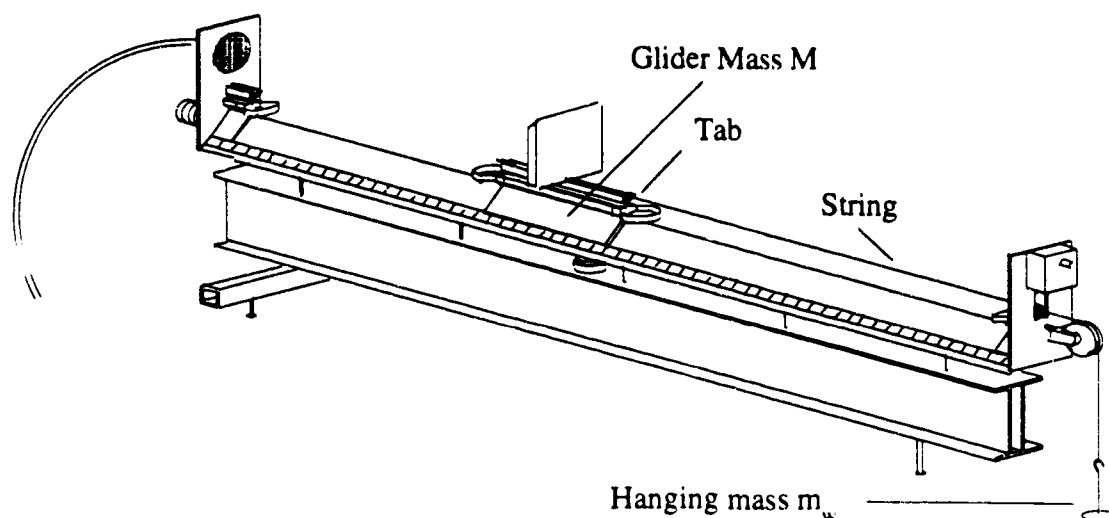

Figure 1: Set-up for Part II
- (b) The complete plot of this data was previously seen in this activity as Figure 1.
1. Attach the hook on the thread to the metal tab on the glider, pass the thread through the hole in the transducer mounting plate, and then over the pulley at the end of the air track. Finally, attach the mass  $m_w$  (mass hanger and mass disks) to the thread loop. The set-up for this part of the experiment is shown in Figure 1.